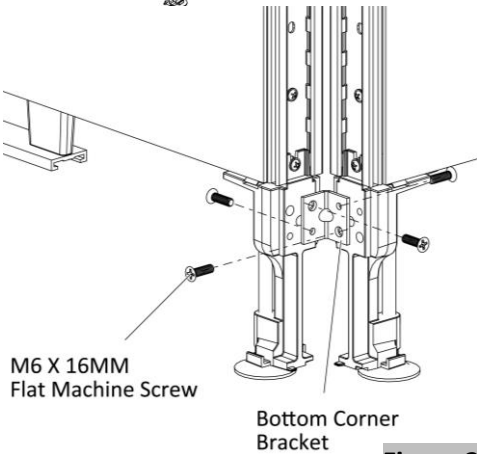

Figure 2
- 5. Securely fasten the bottom corner bracket to the panel legs with four M6 X 16MM Flat Machine Screws, (Figure 2).